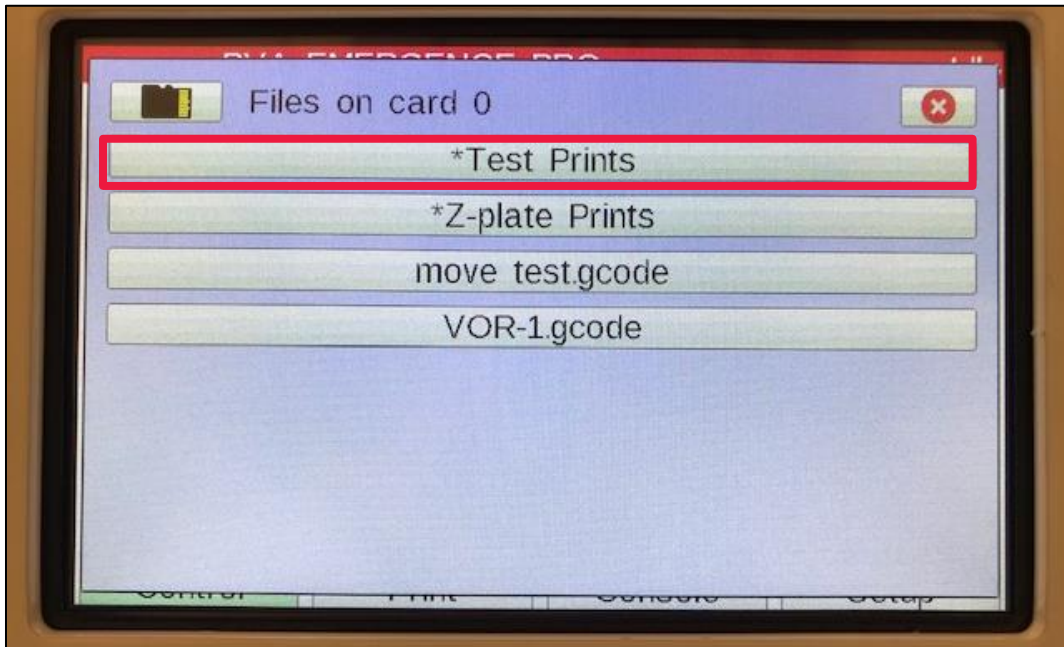

Figure 60: Test Print Files
2. Select **Test Prints** (Figure 60).